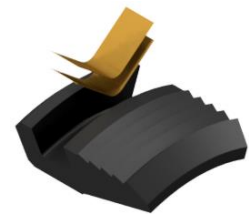

Fig. 1
**NOTE8:** Install two (2 ea) springs per slip (Fig. 1).